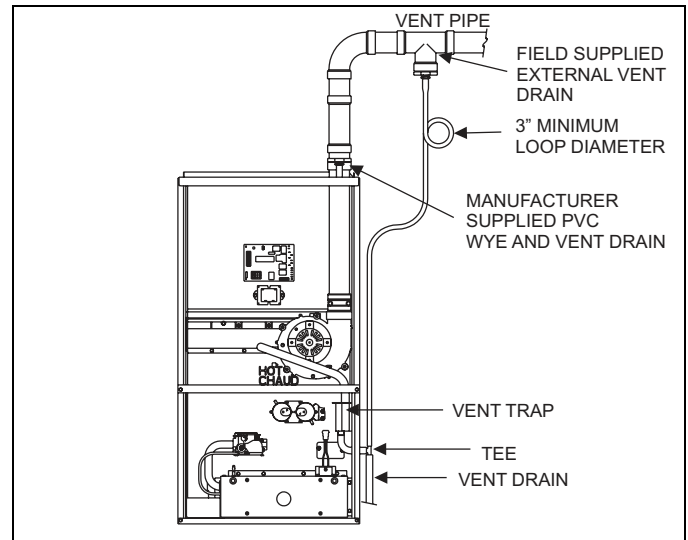

FIGURE 18: External Horizontal Vent Drain
When installing the furnace with a horizontal vent configuration that will predominately be in a low ambient condition it is recommended that an external vent drain be installed in the horizontal portion of the venting system. The external vent drain is also recommended for extremely long horizontal vent applications. This is recommended to prevent accumulation of excess condensate in the inducer motor during operational cycles. Refer to Figure 18 for recommended external vent drain configuration and connections.
6. A vent drain is required when vent passes through any unconditioned space such as an attic or crawl space in order to prevent the accumulation of excess condensate in the inducer motor during operational cycles. See Figure 18.